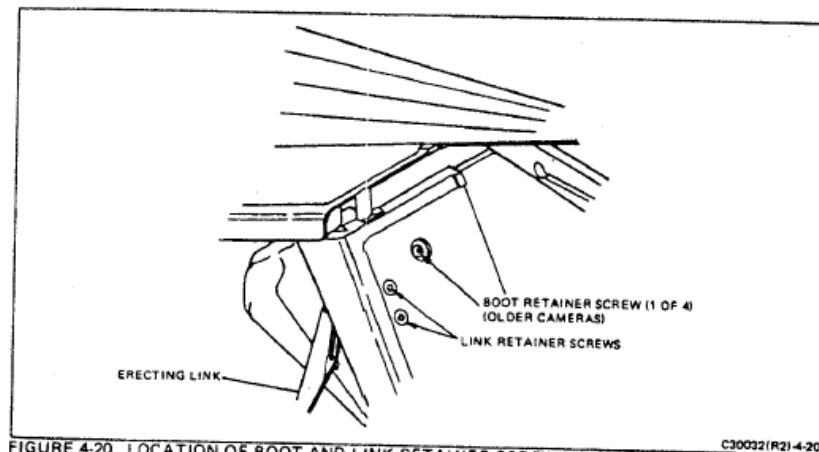

FIGURE 4-20 LOCATION OF BOOT AND LINK RETAINER SCREW
7. Refer to Figure 4-20. Remove the two link-retaining screws.
8. Remove the boot-retaining screw indicated in Figure 4-20.
4. Install the three screws through the mirror cover to secure the erecting link (Figure 4-20).